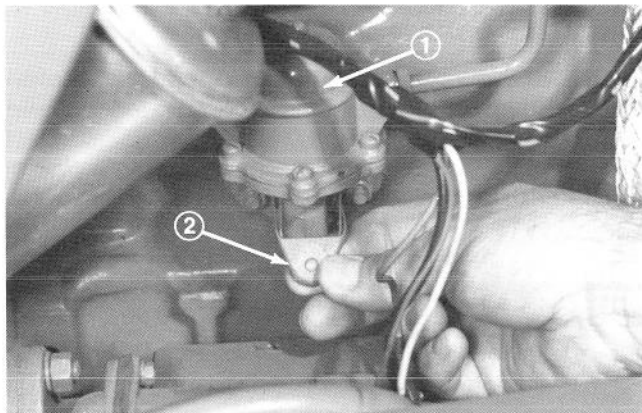

Figure 61
7. Operate the priming lever on the fuel lift pump until pure fuel, free from bubbles, comes out around the vent screw (Fig. 61). Tighten the vent screw.
Note: If the priming lever cannot be moved fully, it means that the camshaft lobe is up. The engine must be turned over one revolution so the lobe is down, and the pump can be operated (Fig. 61).
FUEL LIFT PUMP (Diesel) (Fig. 61)
The lift pump is camshaft-operated to pump fuel from the tank to the filter and the injection pump. It is also used to manually prime the filter and pump after running out of fuel, changing the filter element, or any time the fuel lines are disturbed. Pump the lever up and down to operate the pump (Fig. 61). If the lever cannot be moved fully, apparently the camshaft lobe is up, and the engine must be turned over one complete revolution to get the cam lobe down so the lever can be operated.